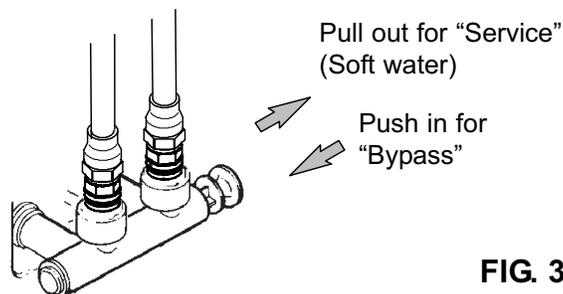
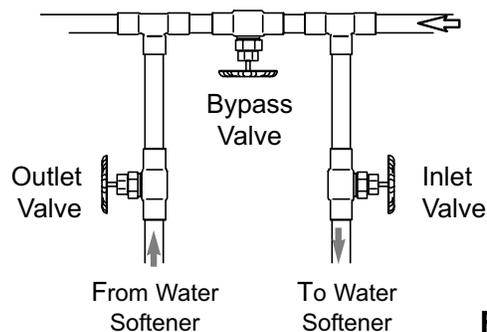

FIG. 3A
FIG. 3B
- Always install either a single bypass valve (See Figure 3A) or a 3-valve bypass system (See Figure 3B). Bypass valves allow you to turn off water to the softener for repairs if needed, but still have water in house pipes.
If installing a 3-valve bypass system, plumb as needed using Figure 3B as a guide. When installing sweat copper, be sure to use lead-free solder and flux, required by federal and state codes. Use pipe joint compound on outside pipe threads.